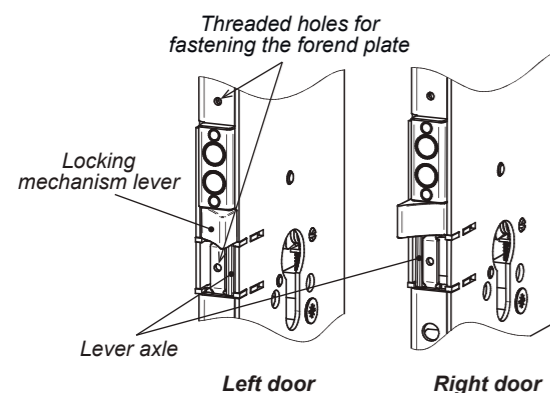

Fig. 4. Locking mechanism lever position on the left and right doors
1. Upon delivery, the locking mechanism lever is oriented for installation on the left door. In order to install the lock on the right door needs to change its position (see Fig. 4). For this: